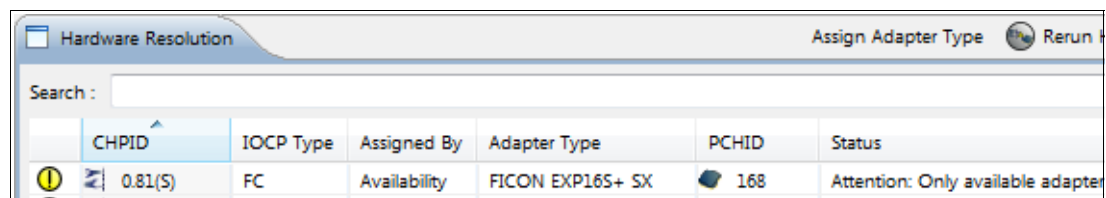

Figure 4-30 Manual Mapping of Hardware → I/O
2. Ensure that the tool is set to display Manual Mapping in the Hardware → I/O format (see Figure 4-30).